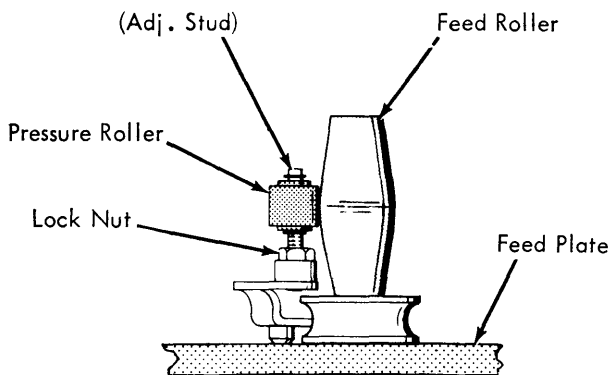

FIGURE 205. Pressure Roller Adjustment
- 6. Pressure Roller - Adjust the pressure roller up or down by its mounting stud so that it engages the center of the crown on the feed roller as shown in Figure 205.